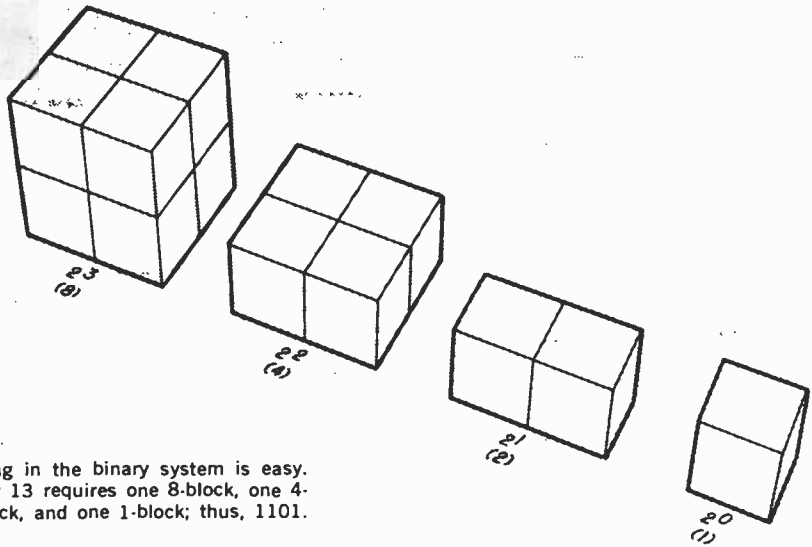

Fig. 1. Counting in the binary system is easy. To build binary 13 requires one 8-block, one 4-block, no 2-block, and one 1-block; thus, 1101.
**Binary Number System.** To learn how the binary (base-2) system works, consider Fig. 1 in which four groups of blocks are shown. The first one-block on the right is preceded by a group containing two blocks, which is preceded by a group containing four blocks, preceded by an eight-block group.